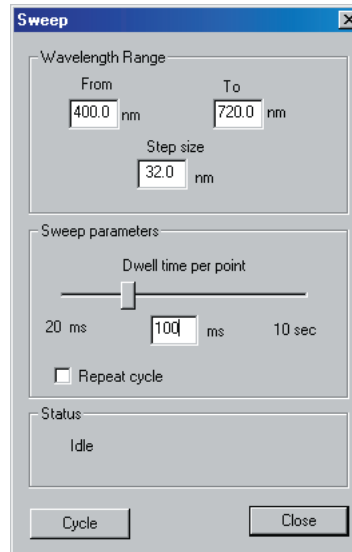

Figure 11. VariSpec Sweep Panel
6. Click the **Sweep** button to open the **Sweep** window (Figure 11 on page 16). This window lets you set a **Wavelength Range** and **Step Size** (in nanometers) for the filter to cycle through. You can also set the amount of time you want the filter to remain at each wavelength and whether or not you want the filter to cycle once or repeat indefinitely.